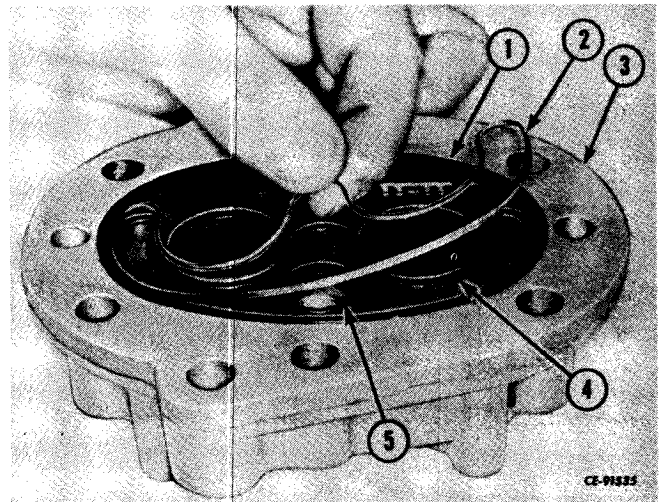

Figure 3-49
Remove the back-up ring (2, Fig. 3-49), "O"-ring (5) and seal rings (1 and 4) from the cover (3).
Install the new seal rings (1 and 4, Fig. 3-49), "O" ring (5) and back-up ring (2) in the body (3).